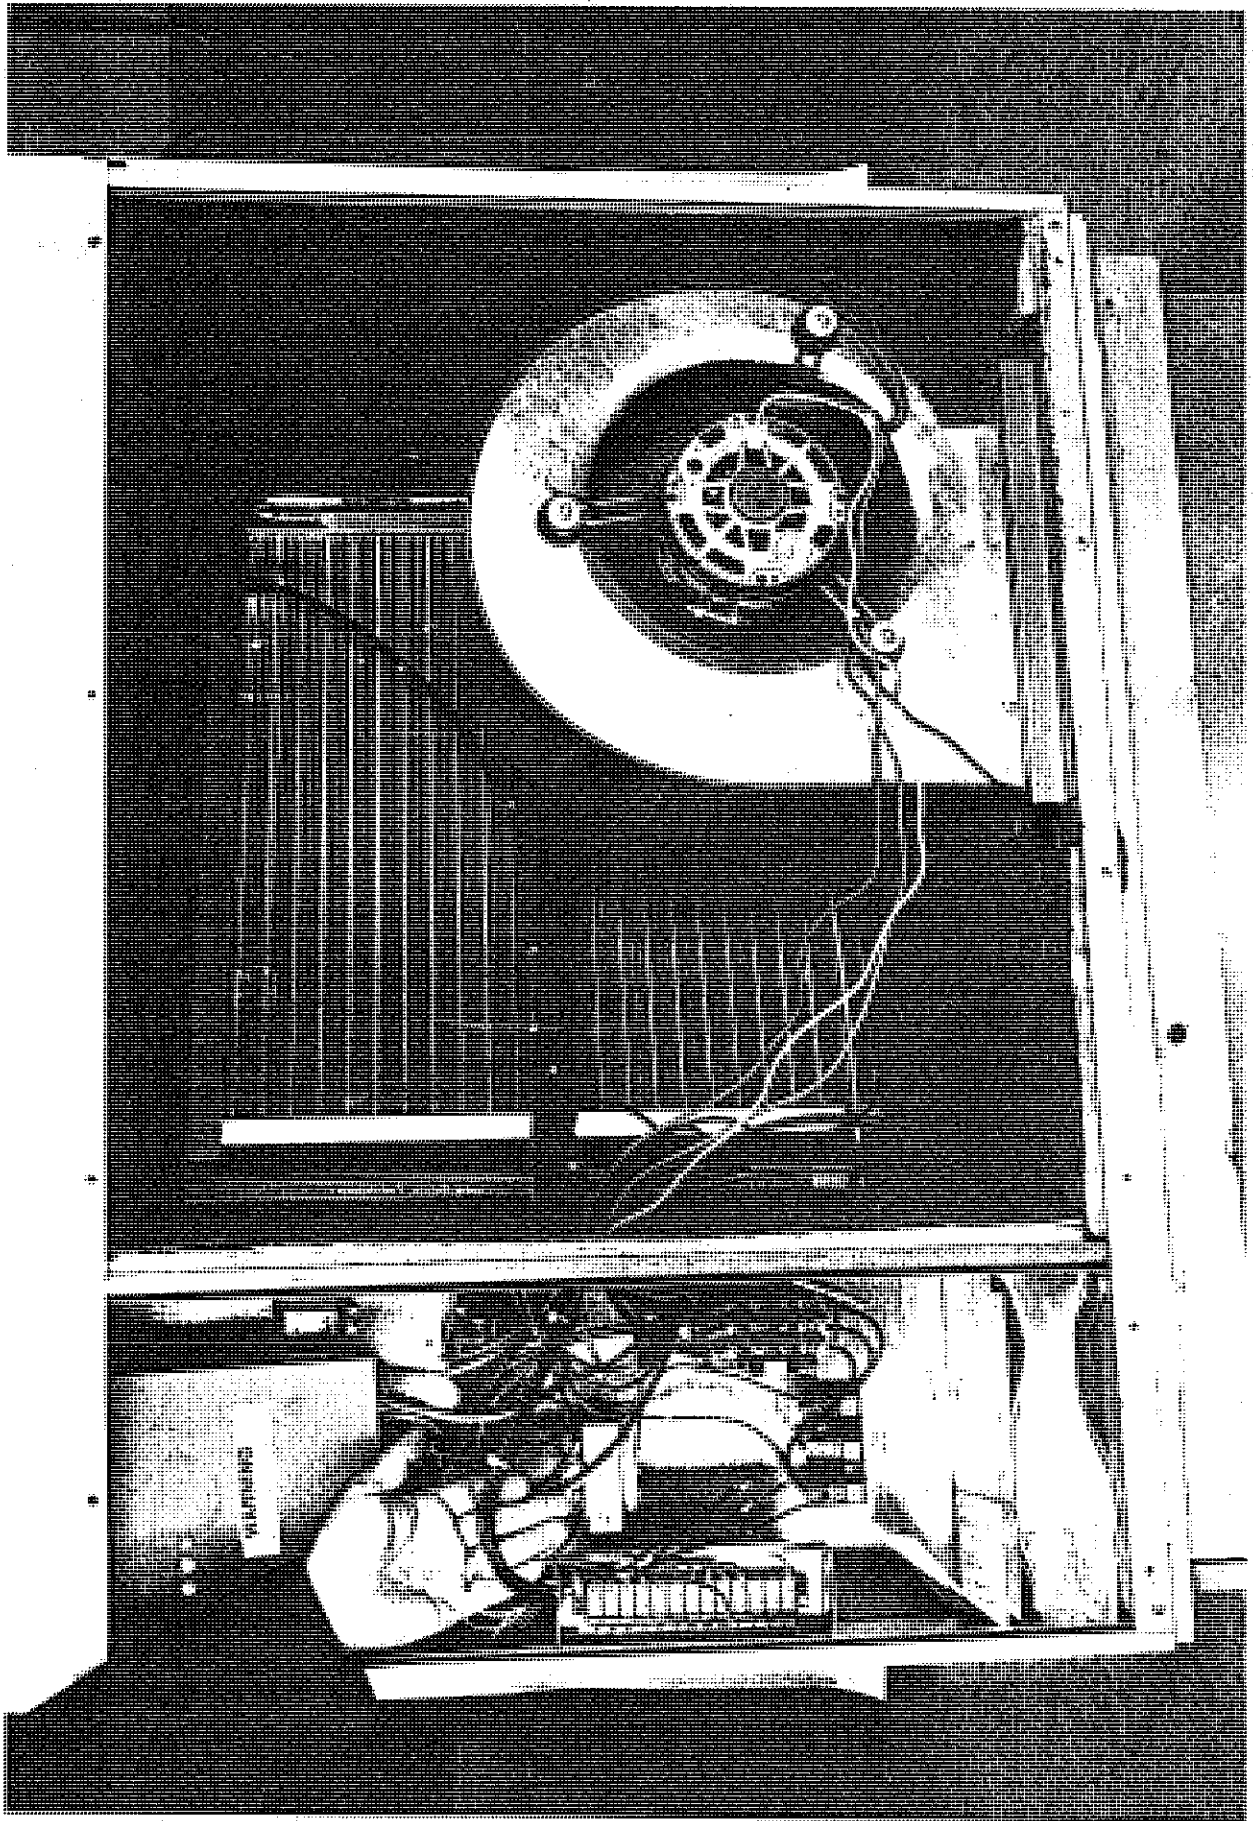

Figure 4
5. Route the wiring harness through the 1" snap bushing above coil* (Figure 3) through the blower compartment, through the existing 7/8" diameter snap bushing located in the side of the unit control box, then through the control box, through the snap bushing and into the low voltage terminal block section (Figure 4). Attach wires to the terminal block as per wiring diagram.